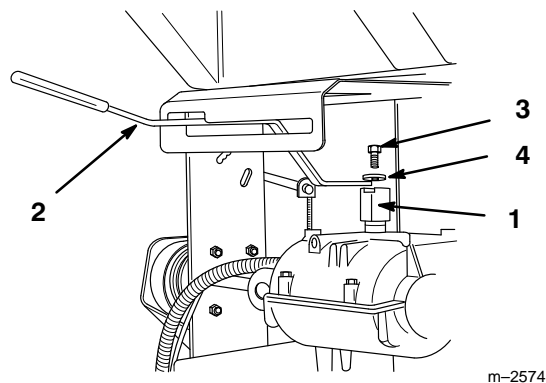

Figure 1
1. Align mounting block with flats of shaft on top of transmission and slide onto shaft (Fig. 1).